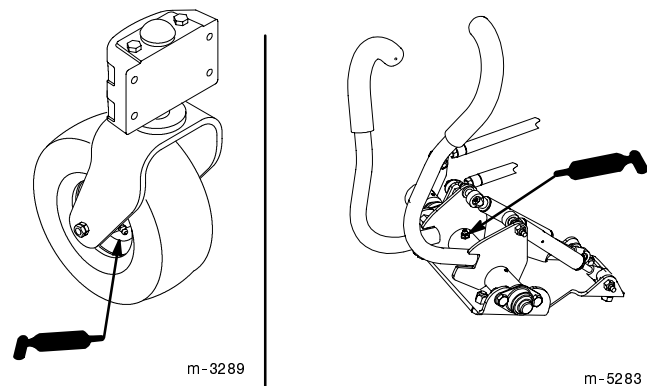

Figure 66
1. Lubricate the castor wheel bearings and motion control lever pivot until grease begins to ooze out of the bearings (Fig. 66).